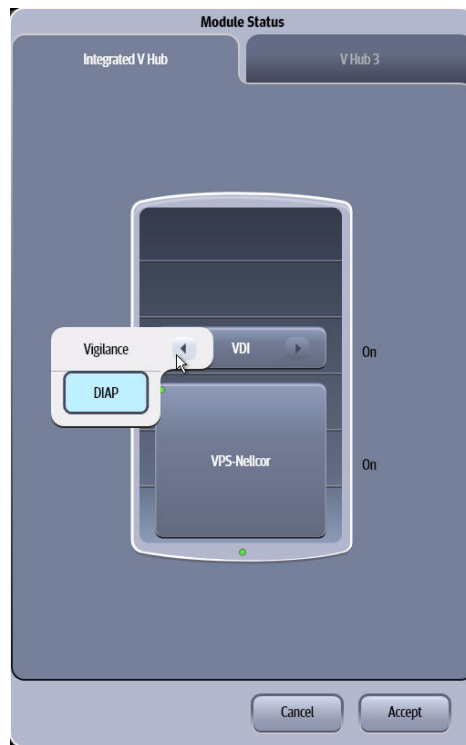

FIGURE 5-2 Module Status Dialog (with Integrated V Hub)
1. Select the  icon in the upper right corner of the Main Screen to open the Module Status dialog (as shown in FIGURE 5-2).
4. Select the desired mode (as shown in FIGURE 5-2).